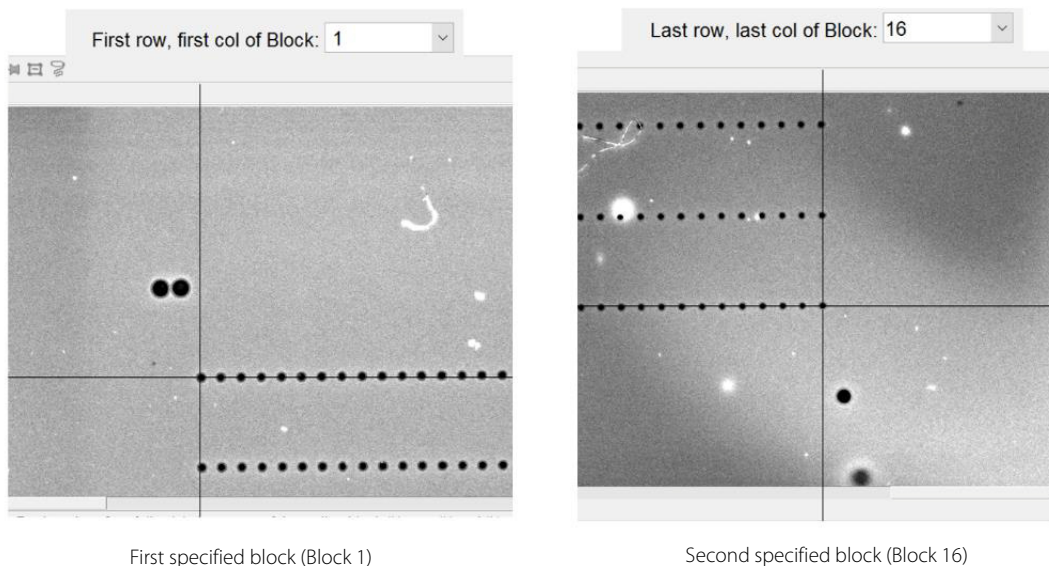

Figure 2-8: Selecting registration blocks.
9. Zoom in on the image using  and  until you are able to easily click on the center of the top left well of your first registration block (Figure 2-8, left). You can click/drag the scrollbar to move left/right or up/down. Select **Yes** to confirm your selection. The instructions are also listed in the bottom left panel of the software.
10. Repeat this process by clicking on the center of the bottom right well of your second registration block (Figure 2-8, right). If **Allow flip** was checked, next select the center of the top right well in the third specified block.